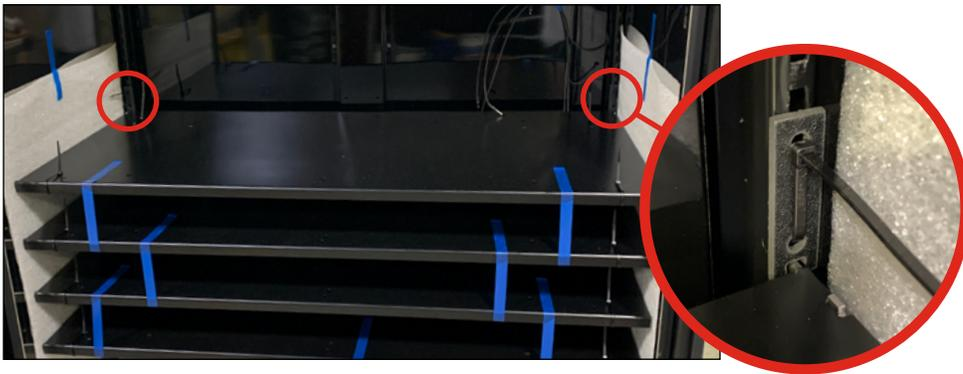

Fig. 18. Shelf shipping brackets located in the shelf standards above the shelf.
1. Remove the shelf shipping brackets. Remove the tape and the cable ties. See figs. 18 and 19.